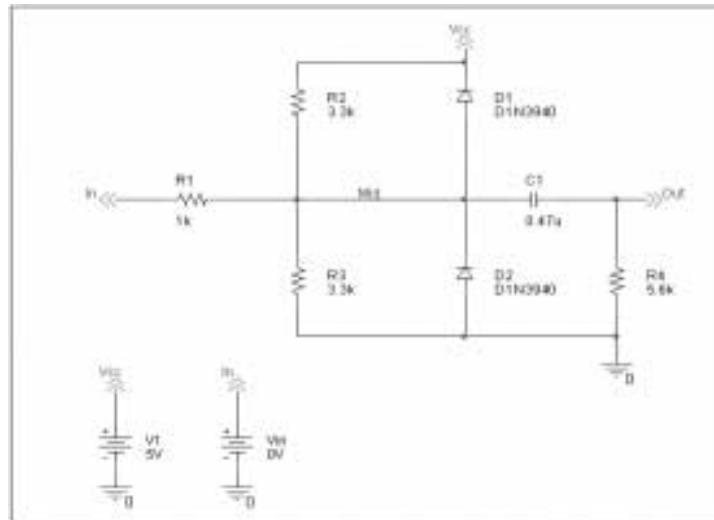

Figure 2-1 Diode clipper circuit.
This section describes how to use OrCAD Capture to create the simple diode clipper circuit shown in Figure 2-1.
- 6 Move the pointer to the correct position on the schematic page (see Figure 2-1) and click to place the first part.
- You will change part names and values that do not match those shown in Figure 2-1 later in this section.
- 3 Follow similar steps as described for the diodes to place the parts listed below, according to Figure 2-1 on page 62. The part names you need to type in the Part name text box of the Place Part dialog box are shown in parentheses:
- resistors (R)
- capacitor (C)
- 6 Place the off-page connector parts according to Figure 2-1 on page 62.
- 1 To place the ground parts (0), click the GND button  on the tool palette.
- 3 Place the 0 ground part from SOURCE.OLB as shown in Figure 2-1 on page 62.
- 6 Continue connecting parts until the circuit is wired as shown in Figure 2-1 on page 62.
Label the off-page connectors as shown in Figure 2-1 on page 62.
- 5 Continue naming the remaining parts until your schematic looks like Figure 2-1 on page 62.